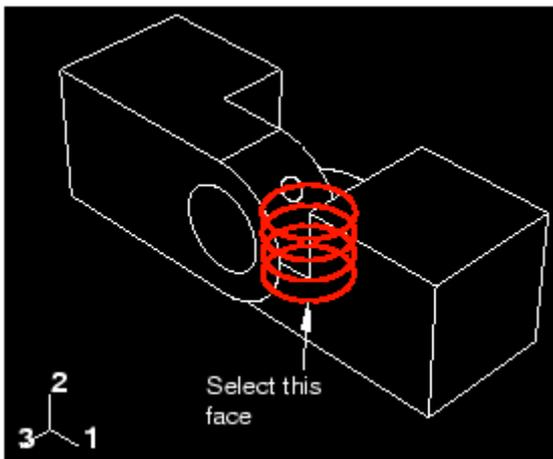

Figure C-27 Select a cylindrical face on the movable instance.
7. Select the flange hole on the solid hinge piece, as shown in Figure C-27. (You may find it helpful to display the wireframe view of the two pieces.)